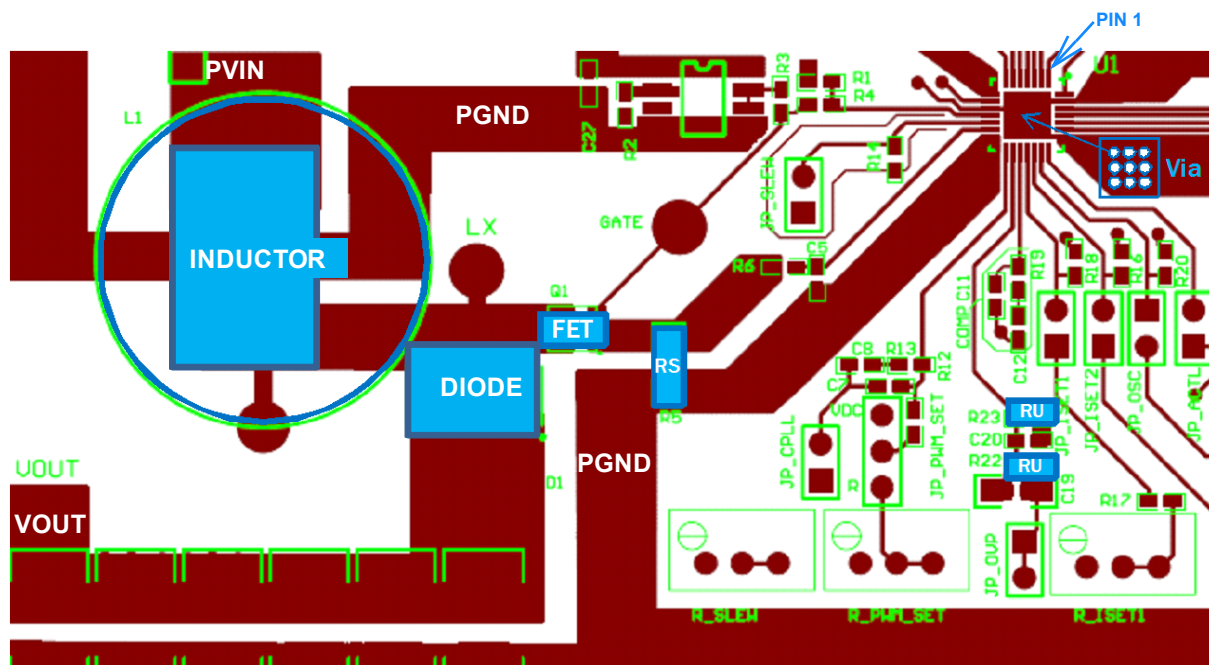

FIGURE 29. EXAMPLE OF TWO LAYER PCB LAYOUT
2. Figure 29 on page 19 shows important traces of current sensor (RS) and OVP resistors (RU, RL). The current sensor track line should be short, so that it remains as close as possible to the Current Sense (CS) pin. Additionally, the CS pin is referenced from the adjacent PGND pin. It is extremely important that this PGND pin is placed with a good reference to the bottom of the sense resistor. In Figure 29 you can see that this ground pin is not connected to the thermal pad, but instead used to effectively sense the voltage at the bottom of the current sense resistor. However, this pin also takes the gate driver current, so it must still have a wide connection and a good connection back from the sense resistor to the star ground. Also, place the RC filter on CS referenced to this PGND pin and close to the chip.